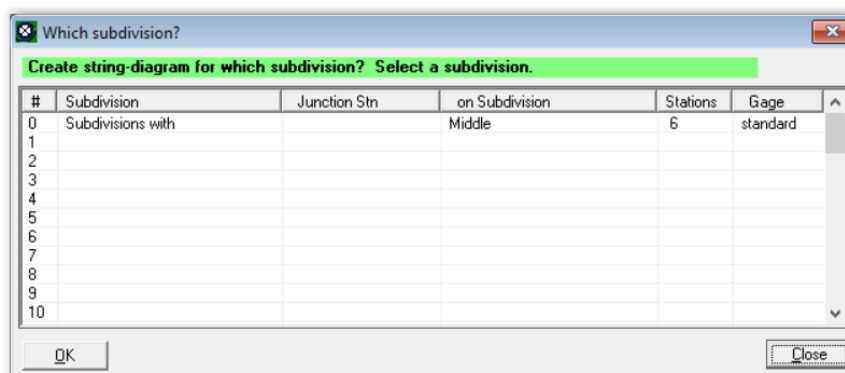

Figure 12-21
- b. On the ProTrak Menu click on "Scheduling", then from the dropdown click on "Create string diagram". This opens the "Which subdivision" window (Figure 12-21) where you select the subdivision to view. As we have only one subdivision we will select it by double clicking on it.